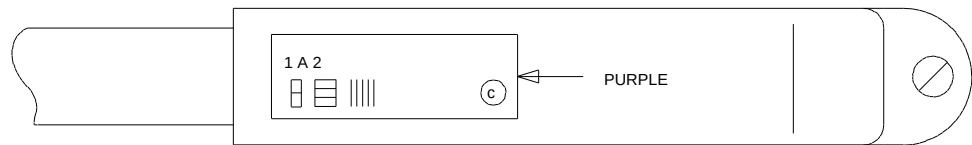

Figure 9-41. Installing Self-Stick Label on 25-Pair Cable Connector
Figure 9-41 shows the proper way to install a label on a 25-pair cable connector (see the note).
The label should be installed near the rear of the connector as shown in Figure 9-41 so it will not be obscured by the switch cabinet connector retainers. Also, it can be installed on the skin of the cable near the connector.
2. Install a self-sticking port label on the back of each connector on the connector cable (Figure 9-41).